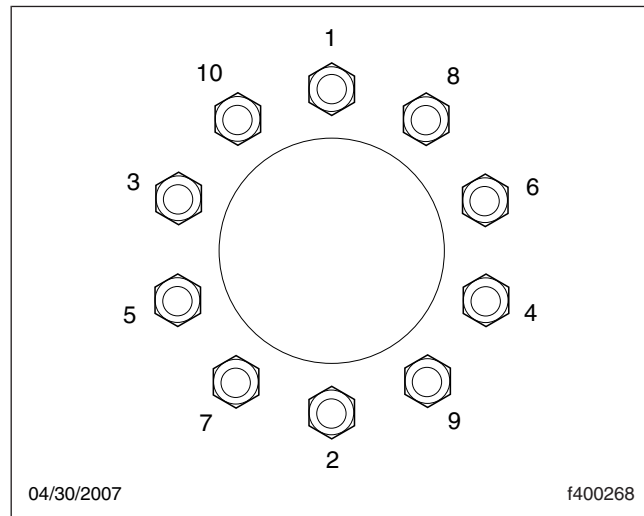

Fig. 20.3, Tightening Pattern, 10-Hole Wheels
- 4.3 Make sure all wheel nuts are tightened. If tightening is necessary, use the tightening pattern in Fig. 20.3 to initially tighten the